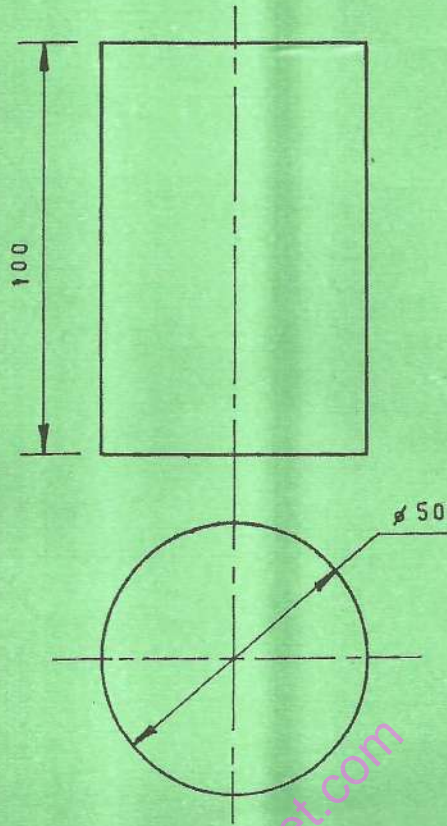

Fig. 4
4. (a) **Figure 4** shows an elevation and a plan of a cylinder with a diameter of 50 mm and a height of 100 mm. Construct a cylindrical helix given the lead = 70 mm. (8 marks)